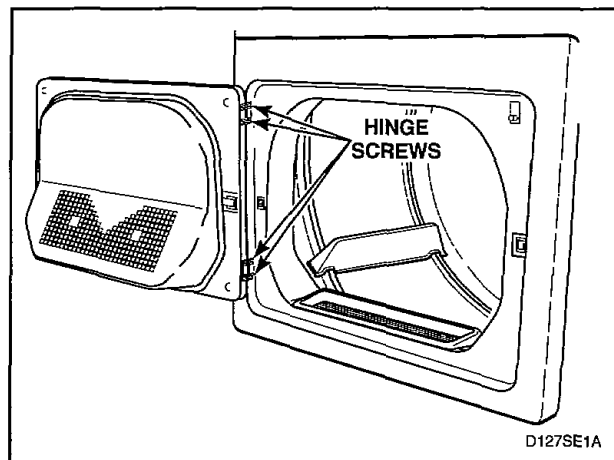

Figure 23
- i. While supporting door assembly, secure hinges to front panel using the four remaining screws, *Figure 23*. Tighten all screws firmly.